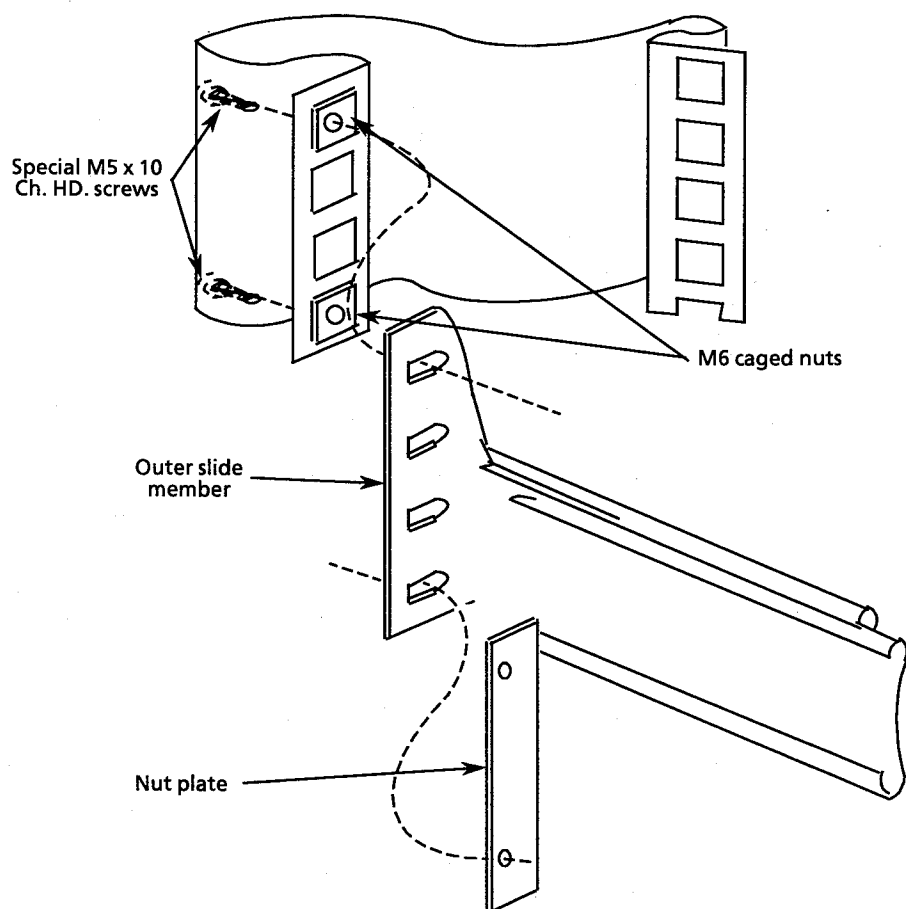

Fig. 2.11 *Fitting the outer slide members into the rack*
6.4.5 Fit the **Outer Slide Members** (two off) to the rack as shown in Fig. 2.11.